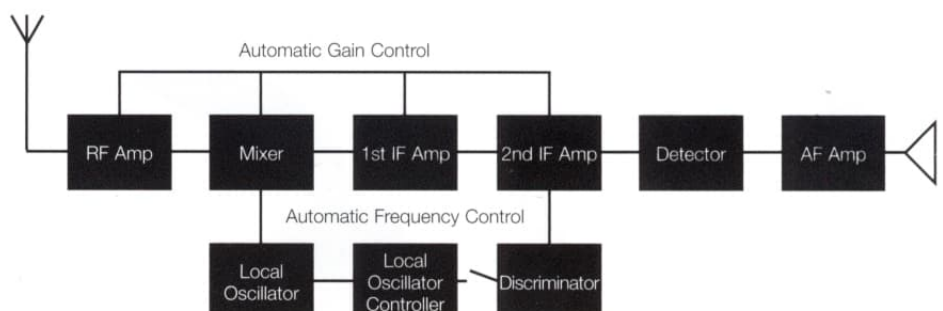

Fig 1: Block diagram of a Superhet with AFC
What is actually done is to provide a circuit on the lines of Fig. 1. It consists of two circuits, one tuned slightly (say, 5 kc.) above the correct intermediate frequency, and the other slightly below. Each circuit is connected to one of the diodes of a double diode and each has its own load resistor.
One of the simplest forms of control is that of utilising what is known as the Miller effect, in which the "reflected" capacity of the control valve is used to vary the oscillator frequency through alteration of the conductance of the valve. This alteration of conductance is achieved by altering the grid bias or, in the case of a screen-grid valve, the voltage applied to the suppressor grid. Bias is obtained in practice from the control circuit shown in Fig. 1.
Tuning error causes shift of the I.F. "Discriminator" circuits tuned above and below I.F. (Fig. 1, left) and connected to a double diode, produce positive or negative voltages across x and y.
Voltages from x, y (Fig. 1) alter the bias of a control valve (Fig. 2, right). This varies the conductance of the valve and the capacity reflected back to the oscillator tuned circuit.
A search of my reference manuals and of the internet produced several articles and extracts, from generalised descriptions to some quite in depth reviews, (see ref 1). I also found some very informative articles in the Broadcaster sheets supplements of 1938, "Servicing Auto Tuning Sets" Part 6 (ref 3) and "Frequency Control in Automatic Receivers" (ref 4). There were quite a lot of American designs, AFC appeared to be a lot more popular in the States, I found these much more varied and diverse but I decided to concentrate on the British sets where I had full circuit diagrams complete with circuit descriptions and setting up procedures. They all appeared to follow the same basic format (fig1) and covered most of the main circuit techniques I was looking for to complete my project.